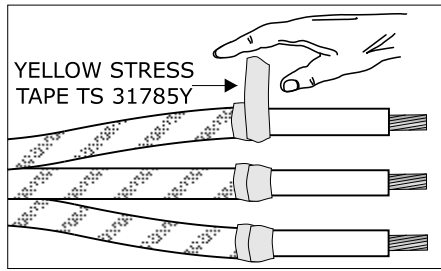

FIG 6
1. Apply the Yellow Stress Tape over the Screen points as shown previously in Fig 6 and section 7.